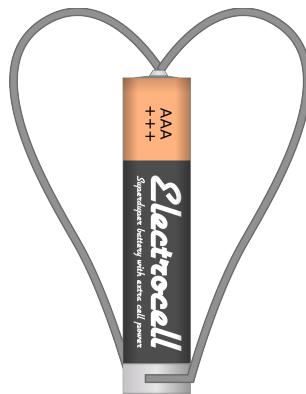

Figure 9: Fill out this sketch with the current, magnetic field and forces on the wires.
8. How does this happen? Make a sketch that shows the direction of the Lorentz force caused by the magnetic field and the current through the copper wire. You may use figure 9 as a basis for your sketch if you like.